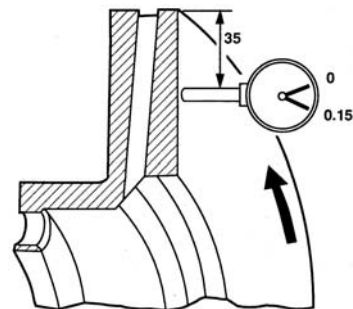

Fig. 20
- With the disc installed measure the runout by rotating the hub as shown in fig. 20. Limit 0.15 mm.